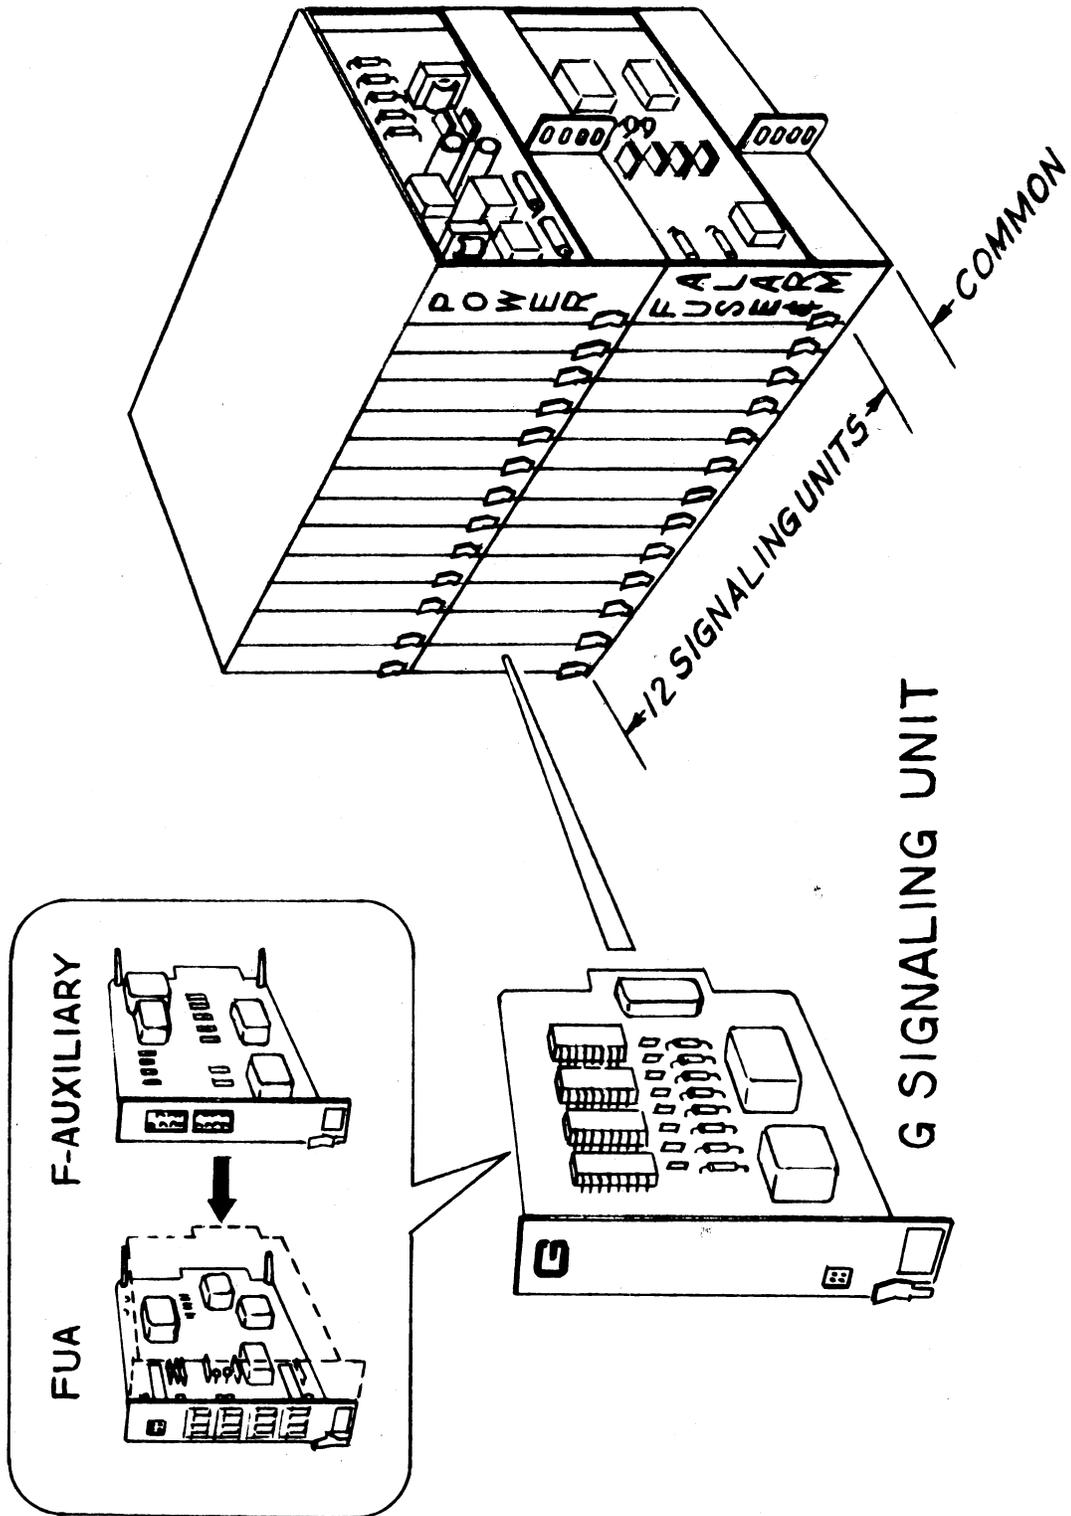

Fig. 2 — G-Signaling Modular Design
1.05 *Common Module Equipment:* The common equipment consists of two double width plug-in units which occupy the right side of the G-signaling module. The upper right unit is the 285A Power Unit and the lower right is the J99395YA Fuse and Alarm Unit. See Fig. 2.